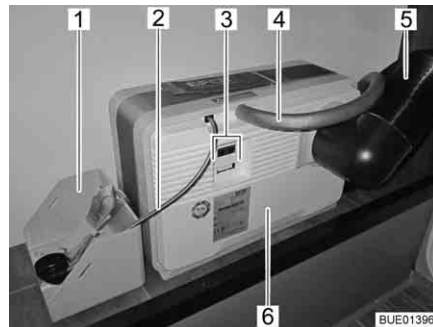
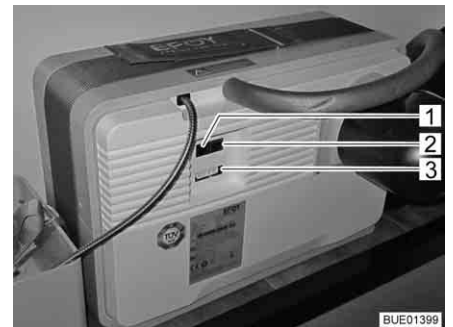

Fig. 168 Fuel cell with tank cartridge
Fig. 169 Connector panel of the fuel cell
The fuel cell consists of several components that are installed in the rear storage space (Fig. 168) and of an operating unit (Fig. 170) in the living area.
The following components are on the fuel cell (Fig. 168,6):
- The connector for the air discharge hose (Fig. 168,4) or the filling hole for the service fluid
- the off-heat tube (Fig. 168,5)
- electrical connections (Fig. 168,3) with data interface (Fig. 169,2), device connection (Fig. 169,3) and connection for the operating panel (Fig. 169,1)
A tank cartridge belongs to the fuel cell (Fig. 168,6). It is connected to the fuel cell via a tank connection (Fig. 168,2).
The tank cartridge is firmly fixed in the tank cartridge holder (Fig. 168,1).